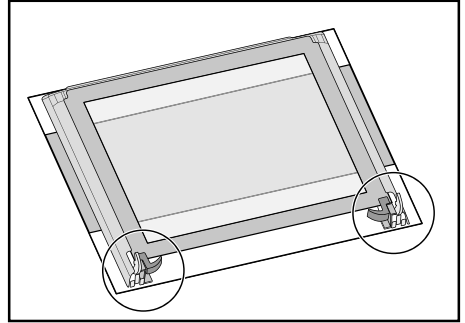

Fig. 12
- 6) place the door on a stable surface (Fig. 12) protected by a soft cloth to prevent the handle surface from being damaged;